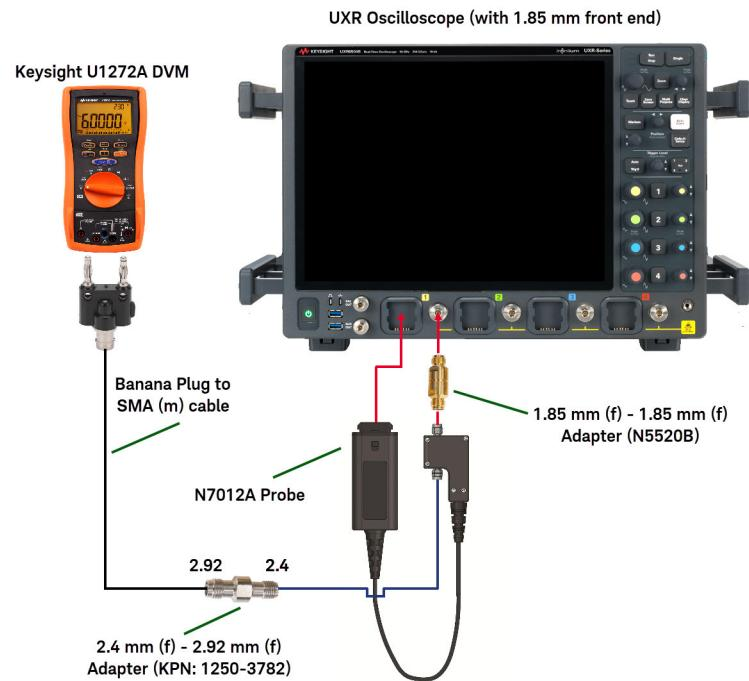
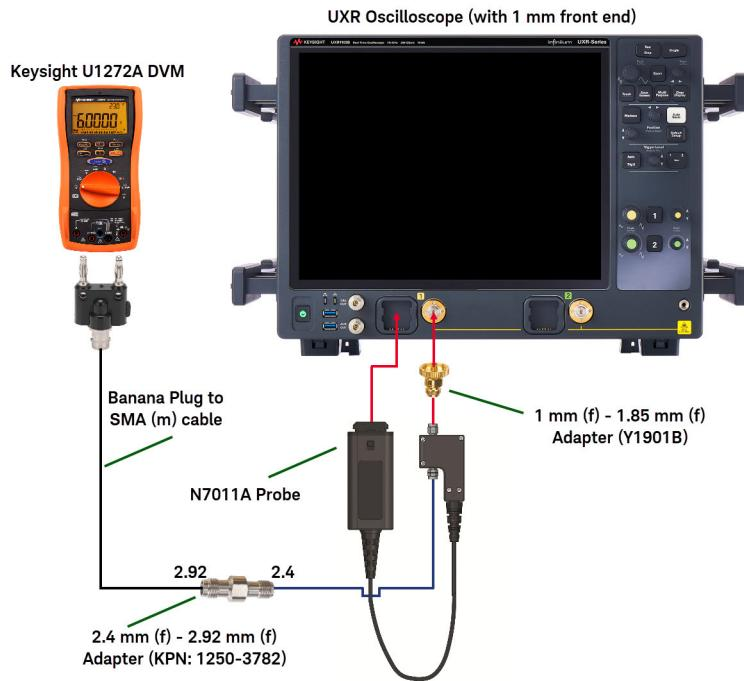

Figure 13 Test setup for Input Resistance at DC tests - setup1
Figure 14 Test setup for Input Resistance at DC tests - setup2
- 4 Connect the BNC cable to the N7011A/N7012A using the SMA (m) to BNC (f) followed by the 2.4 mm (f) to 2.92 mm (m) adapter as shown in Figure 13 and Figure 14.